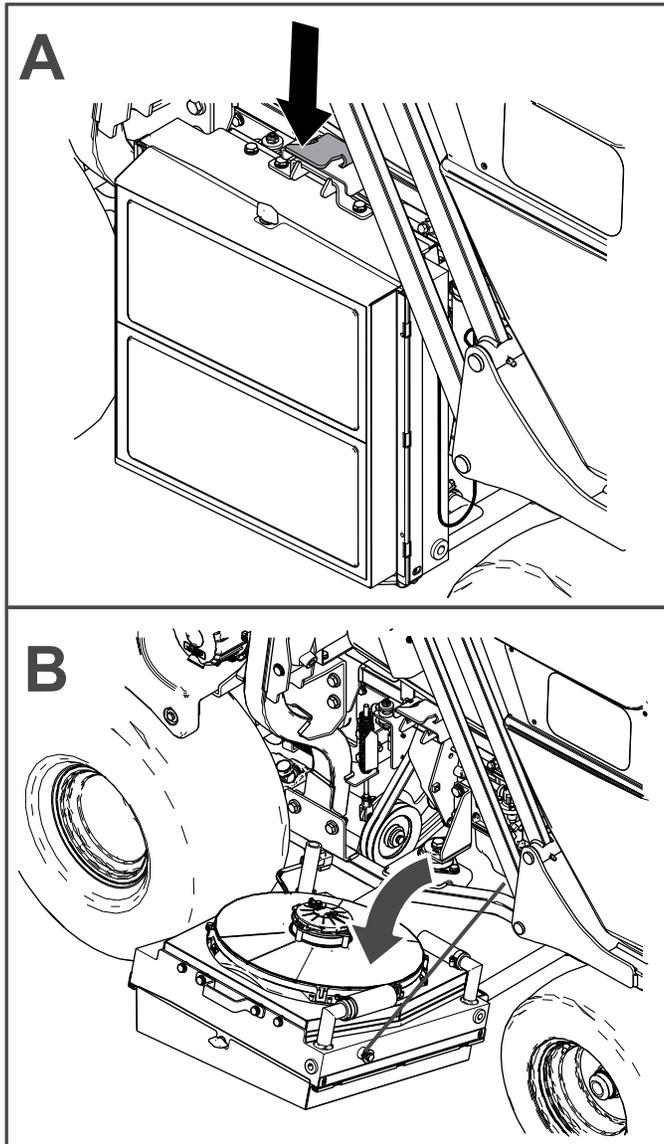
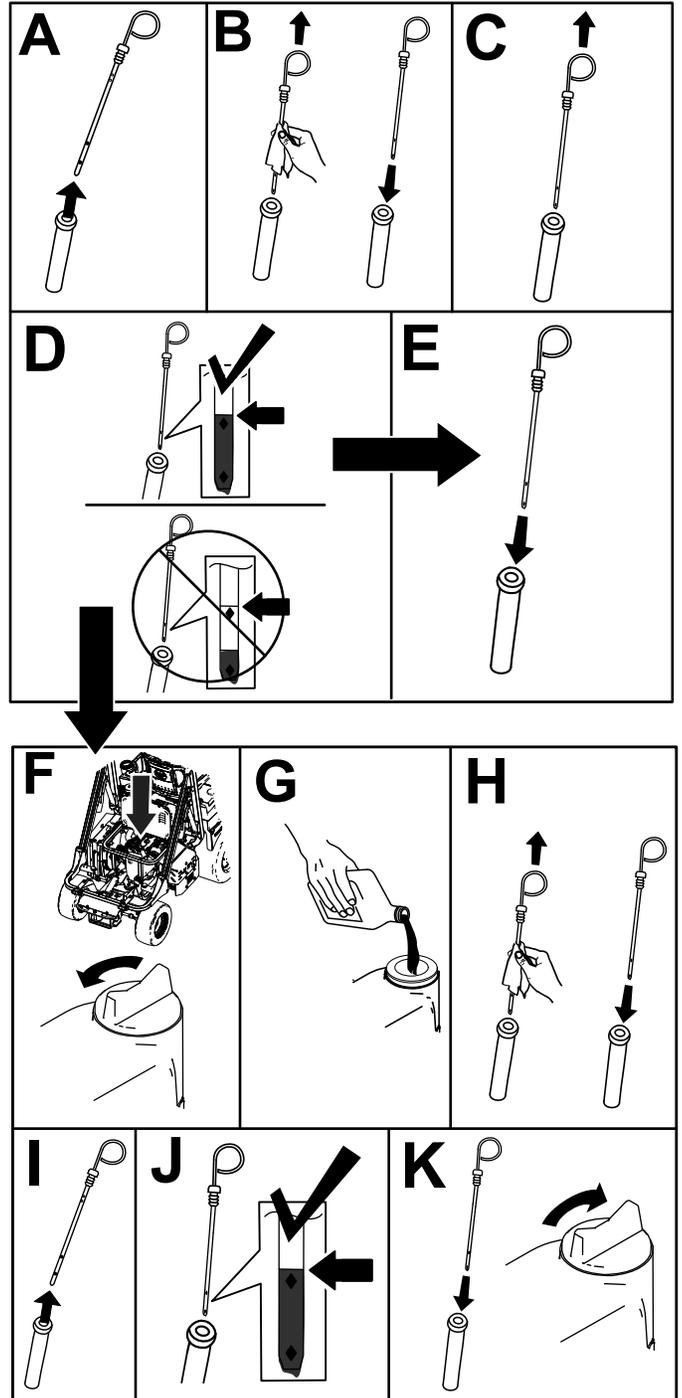

Figure 53
Figure 57
Push down on the latch and lower the radiator to access the engine (Figure 53).
1. Lower the radiator and check the engine-oil level as shown in Figure 53 and Figure 57.